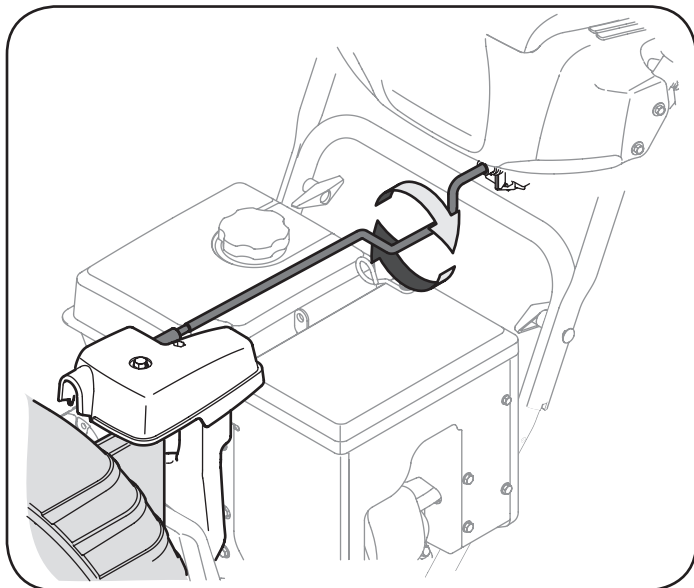

Figure 18
4. Grasp the indented portion of the chute control rod and manually rotate the chute to the right or to the left. See Figure 18.